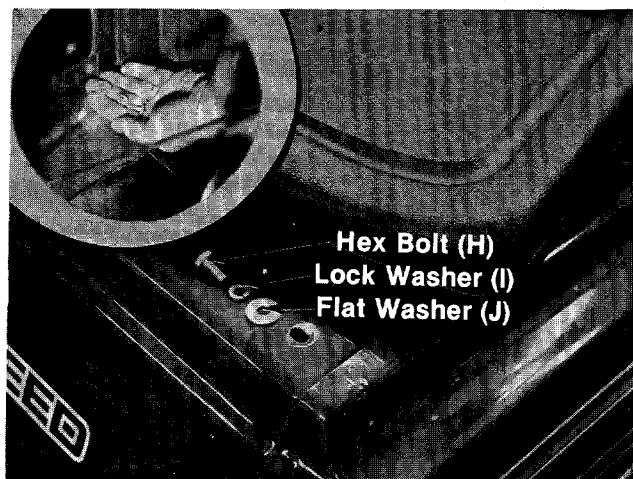

FIGURE 6.
To secure seat to cover assembly, place lock washers (I) and flat washers (J) on hex bolts (H). Line up the four holes in bottom of seat with four corresponding holes in cover. Then insert the four hex bolts up through holes, tightening with an adjustable wrench. See figure 6.